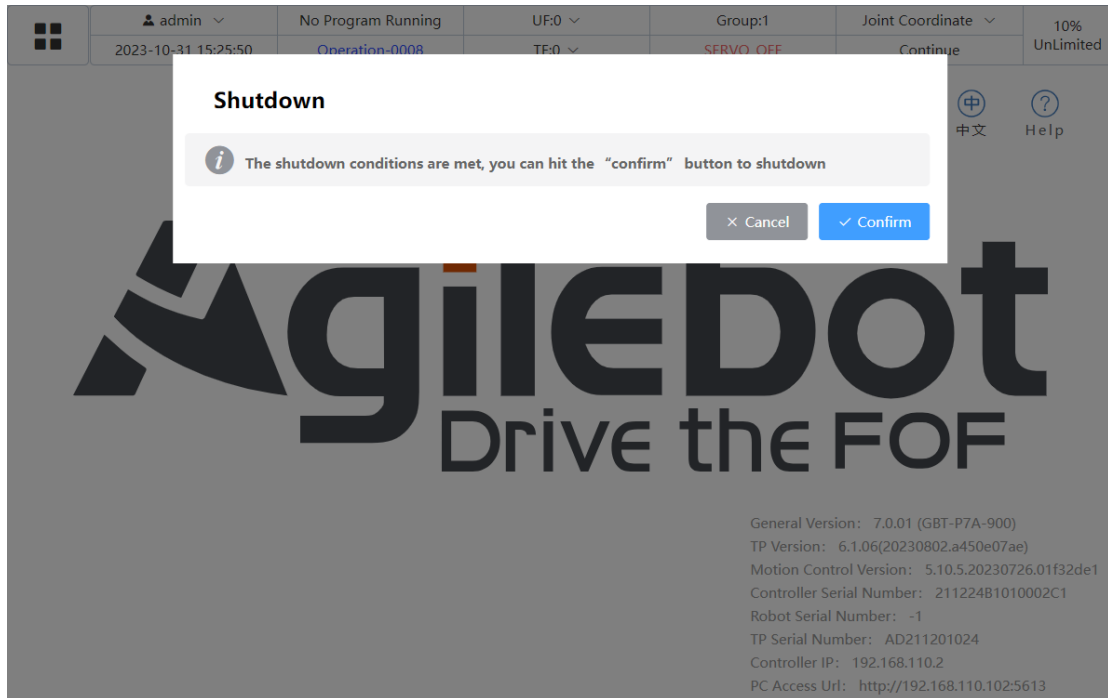

Fig. 1.7 Shutdown Window
1. Press the power switch button on TP until the screen shown in Fig. 1.7 appears, and then click Confirm.